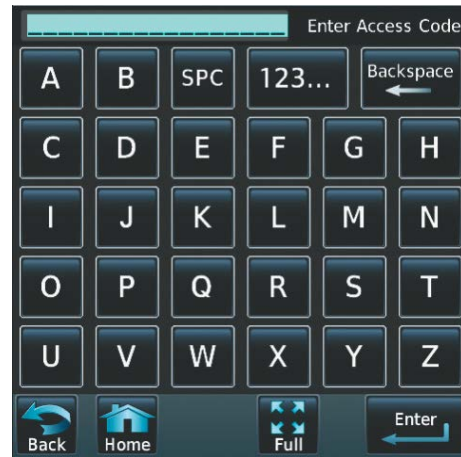

Figure 8-42 Entering the Access Code
- Enter the access code as shown in Figure 8-42.